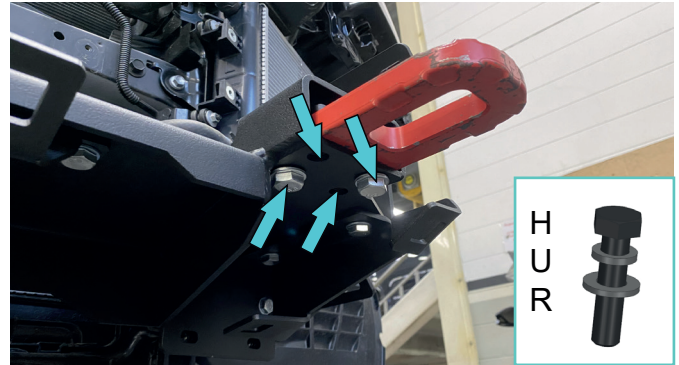

Fig.26
26. Fix recovery points on both sides of vehicle (item 19) using recovery points brackets (item 18), bolts M12x50, spring washers 12 and washers 12 (items H, U, R) (fig.26).